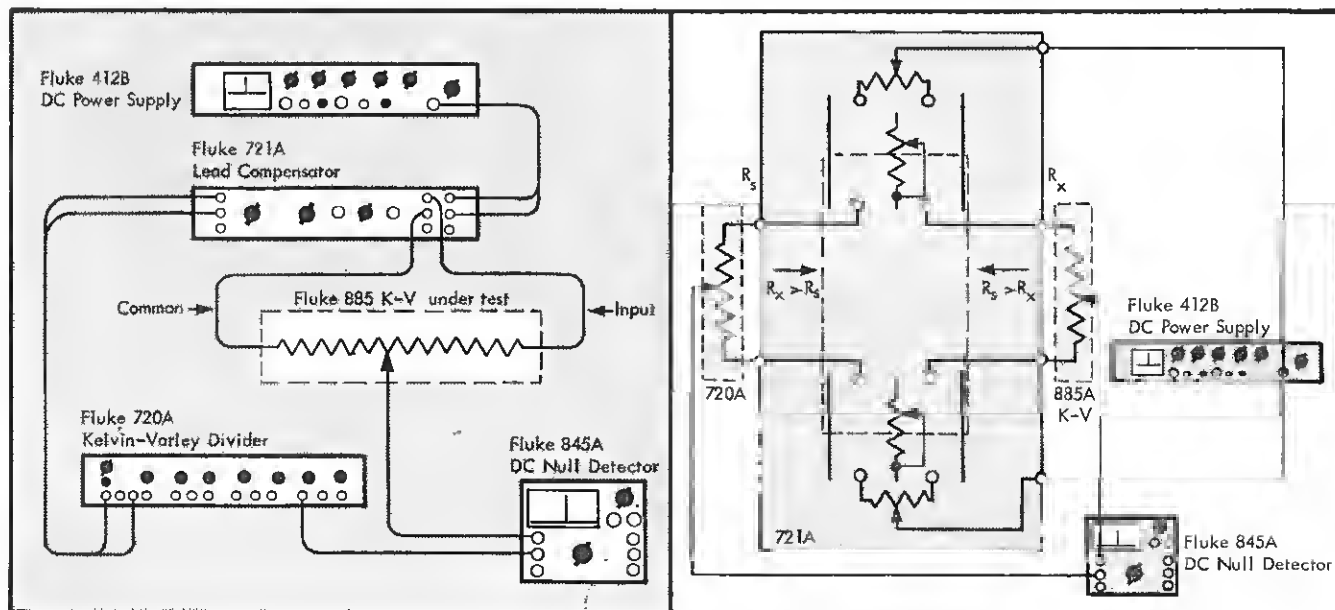

Figure 4-6. KELVIN-VARLEY DIVIDER TEST
- e. Connect the equipment as shown in Figure 4-6.